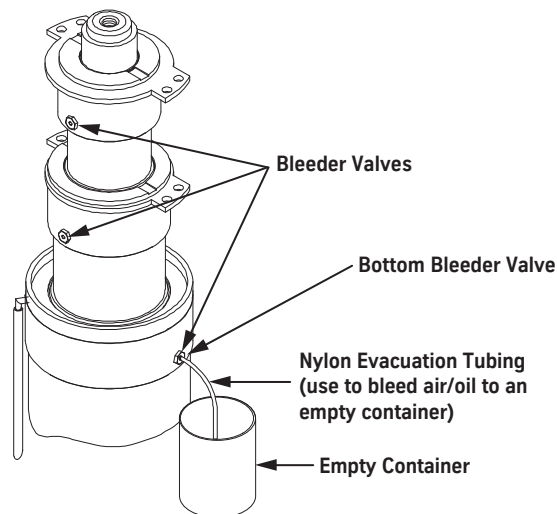

Figure 71 - Bleed the Jacks
1. Insert one end of the nylon evacuation tubing from the jack accessory kit into one of the bottom bleeder valves, and the other end of the tube into an empty container. See Figure 71.